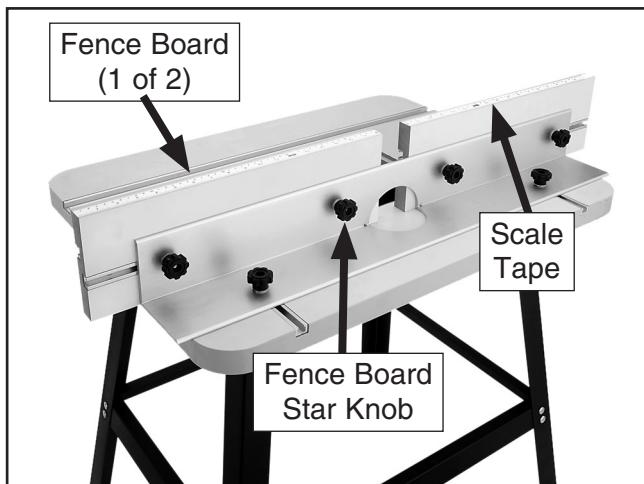

Figure 7. Fence boards secured to the fence support.
8. Slide the heads of (4) M8-1.25 x 25 hex bolts into the fence board T-slots, insert the bolts through the holes in the fence support, then secure the fence boards with (4) 8mm flat washers and M8-1.25 star knobs, as shown in **Figure 7**.